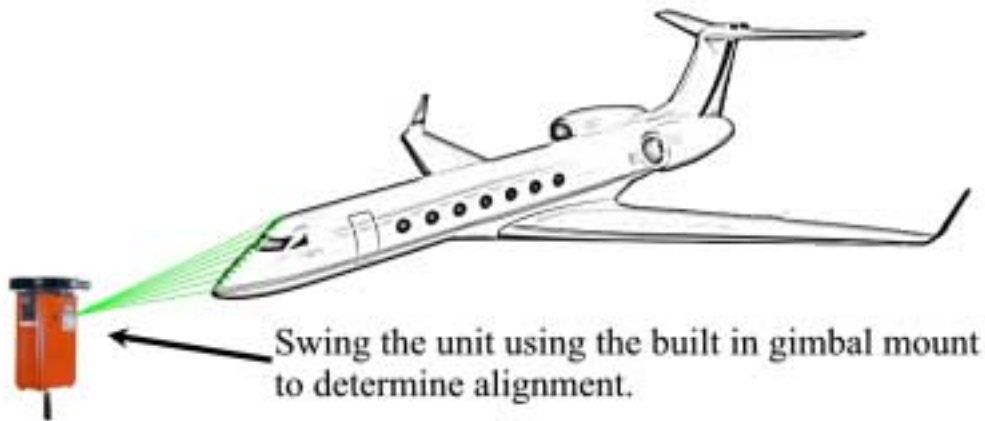

Figure 3-7. Use Sight Laser to align unit with the centerline.
- 4.3 Refer to Figure 3-7. Align the unit by pivoting the CA-320A in a manner such that the sight laser tracks the centerline, adjusting the position of the unit as required.